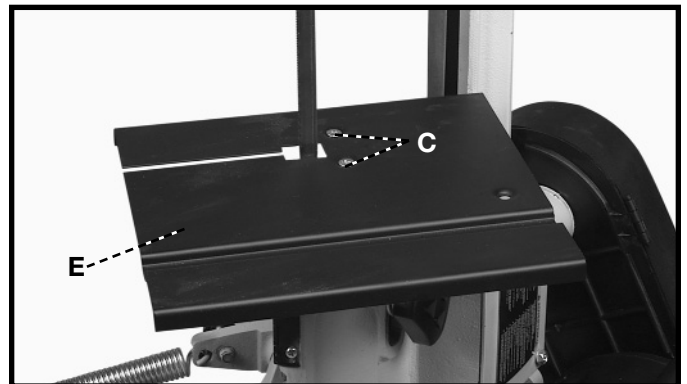

Fig. 34
3. Assemble the vertical table (E) to the guide bracket using the two screws (C) that were removed in STEP 2, as shown in Fig. 34.